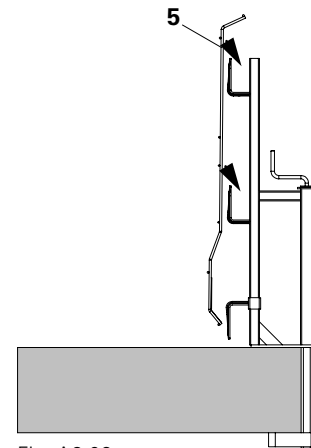

Fig. A2.09
5. Install the Side Mesh Barrier PMB (5) from above in the Guardrail Holder-2 (1). (Fig. A2.09/A2.10/A2.11)
6. Position the Side Mesh Barrier PMB (5) in the L-angles (1.5). (Fig. A2.09)